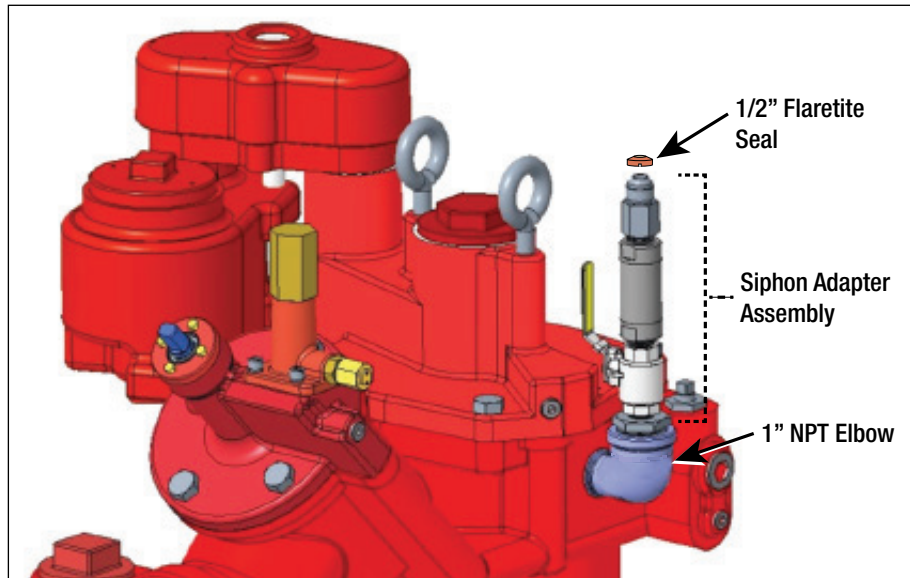

Figure 17. Installing Maxxum STP Adapter Assembly
5. Once the street elbow is securely tightened into the Maxxum STP housing, thread the valve assembly provided in the kit into the street elbow and tighten securely. (see Figure 17).